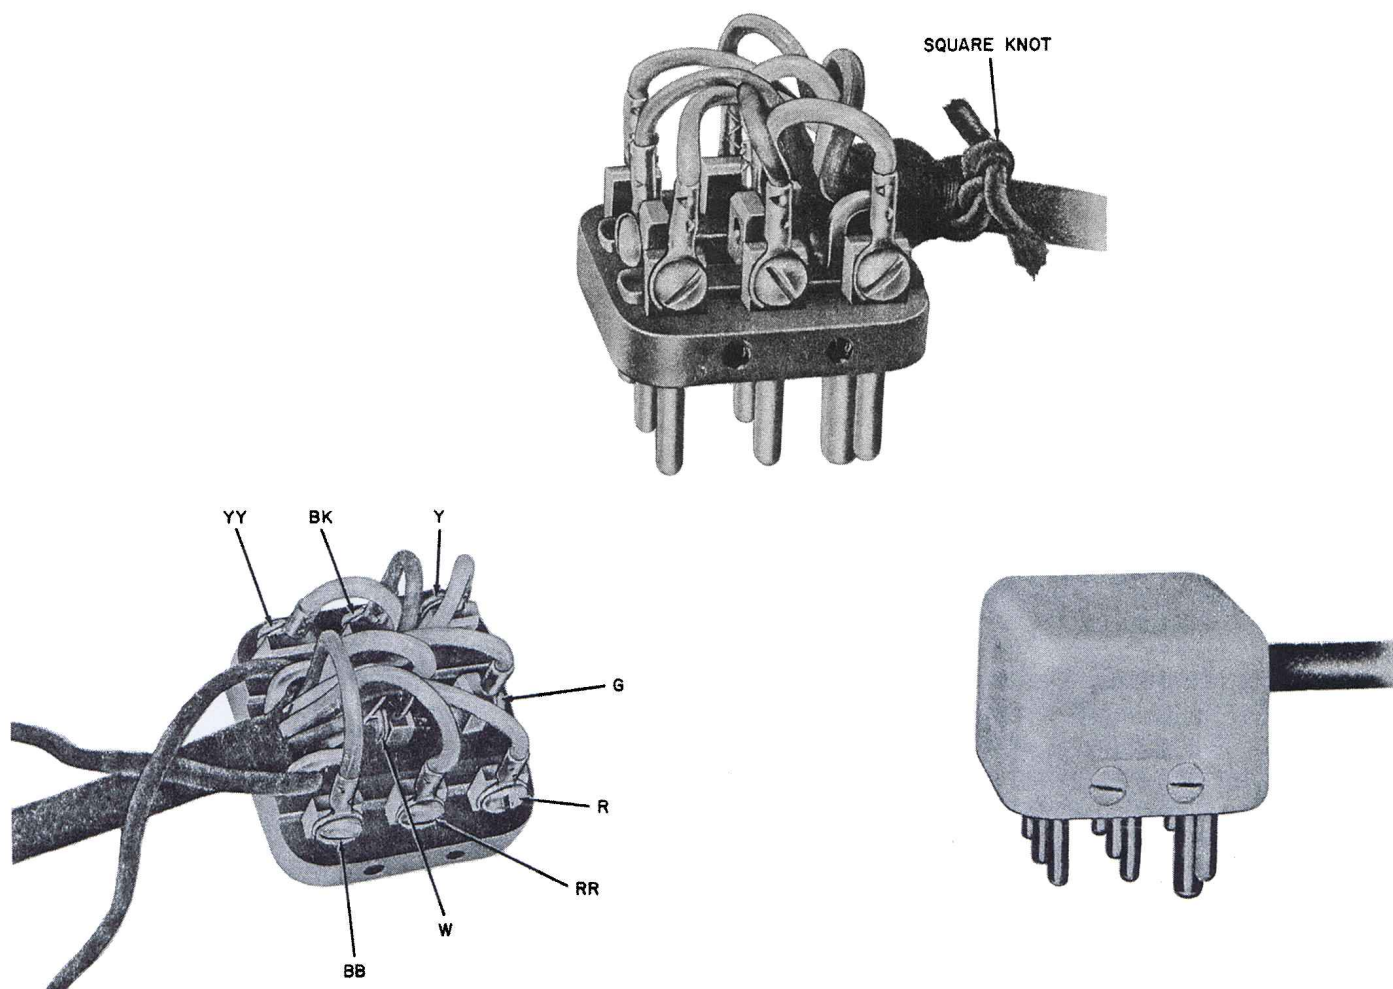

Fig. 1 — 274A Plug
2.02 The 274A plug (Fig. 1) is a two piece, 8-contact plug of molded plastic. It is intended for use with braided fabric covered mounting cords and is equipped with two eyes to which the braid is secured. It is available in color as shown in Table A.